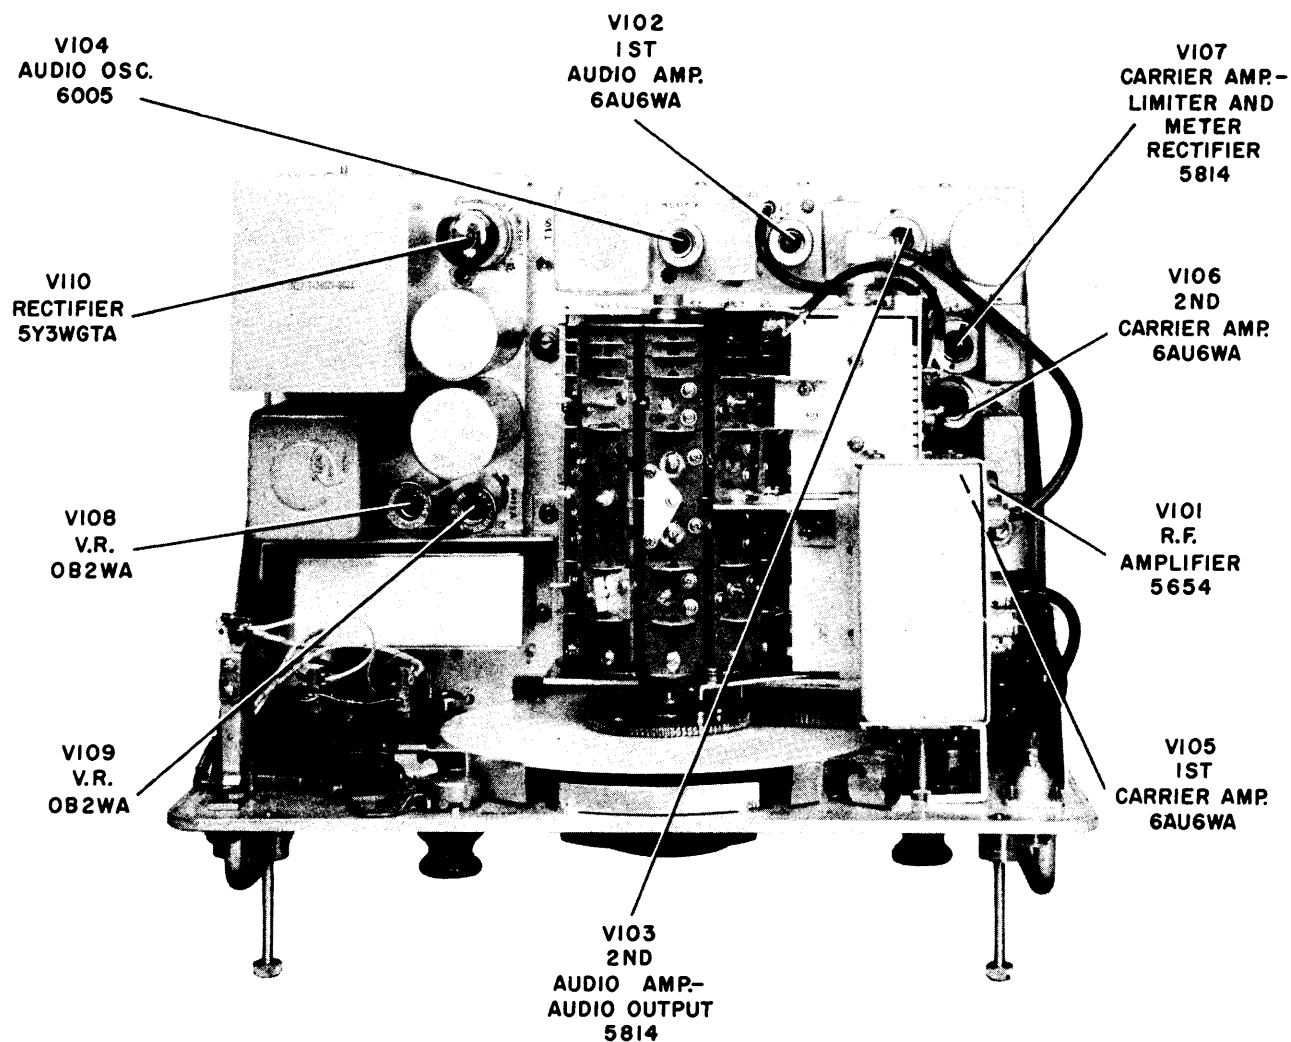

Figure 5-2. Tube Locations, Field Strength Meter IM-84/URM-50
b. **ELECTRON TUBES.**—All electron tubes employed in the AN/URM-50 Monitor are located and identified on Figure 5-2. If a particular tube is burned out, as observed visually by the absence of heater or filament glow, the tube can be replaced by the same type tube of proven quality. To gain access to the tubes it is necessary to remove the field strength meter from its cabinet. To do so first disconnect the antenna and the power cable. Release the four captive screws on the front panel and withdraw the unit from the cabinet. See Figure 3-3. The power cord may